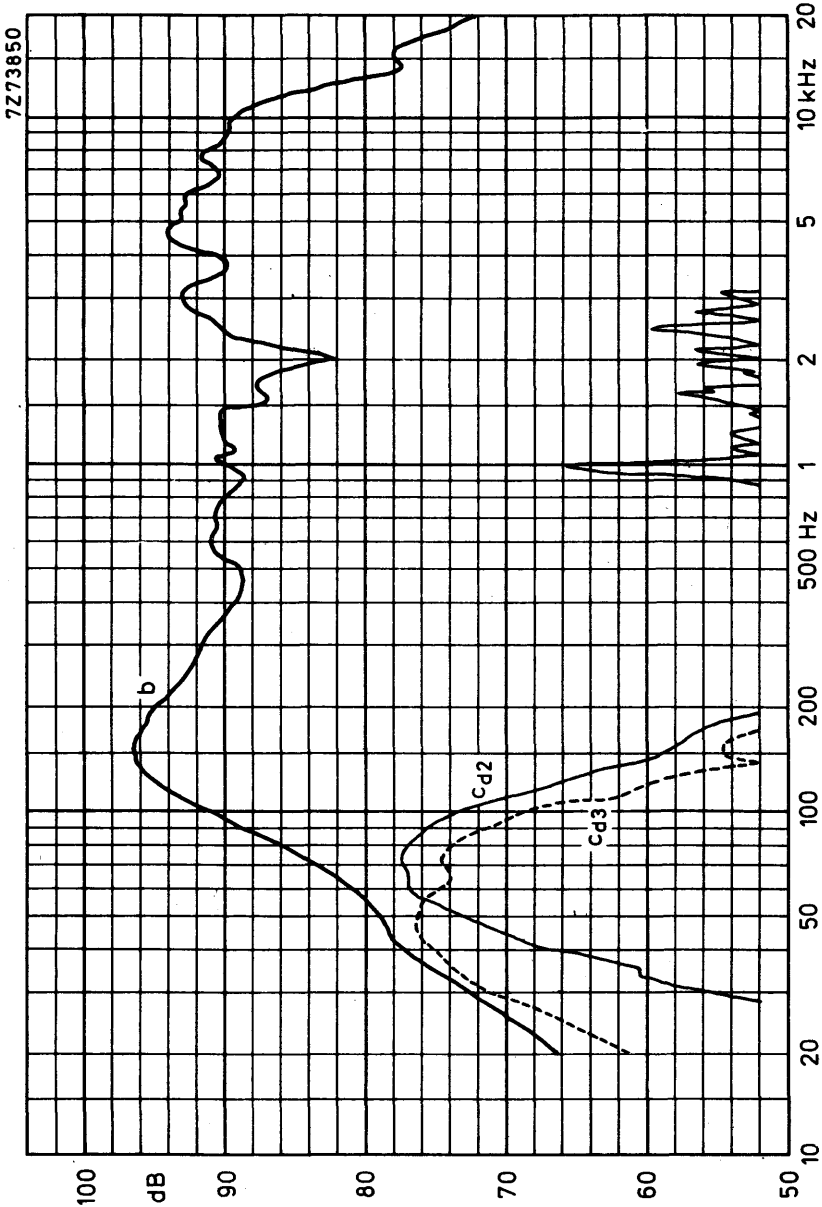

Fig.2
**FREQUENCY RESPONSE CURVES** (see Fig. 2)